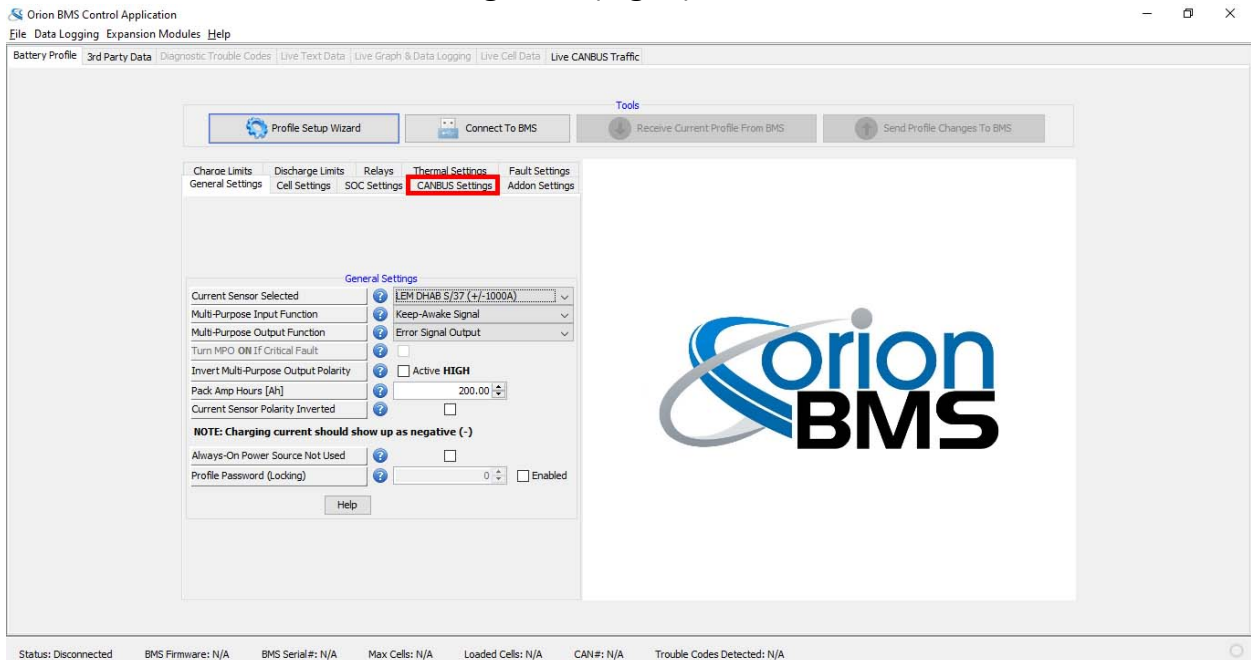

Fig. 2
2. Select the CANBUS settings tab. (Fig. 2)